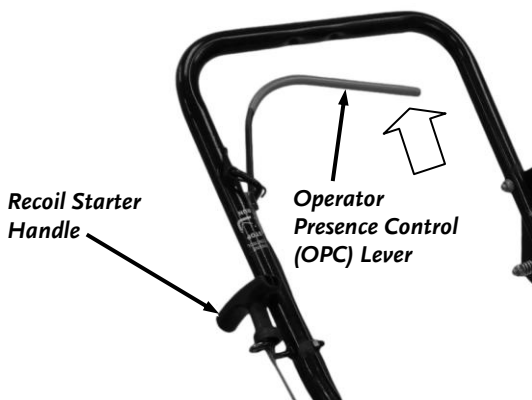

Figure 11
4. Firmly hold Operator Presence Control (OPC) Lever against the Handlebar with the left hand as you grasp the Recoil Starter Handle with the right hand (**Figure 11**).